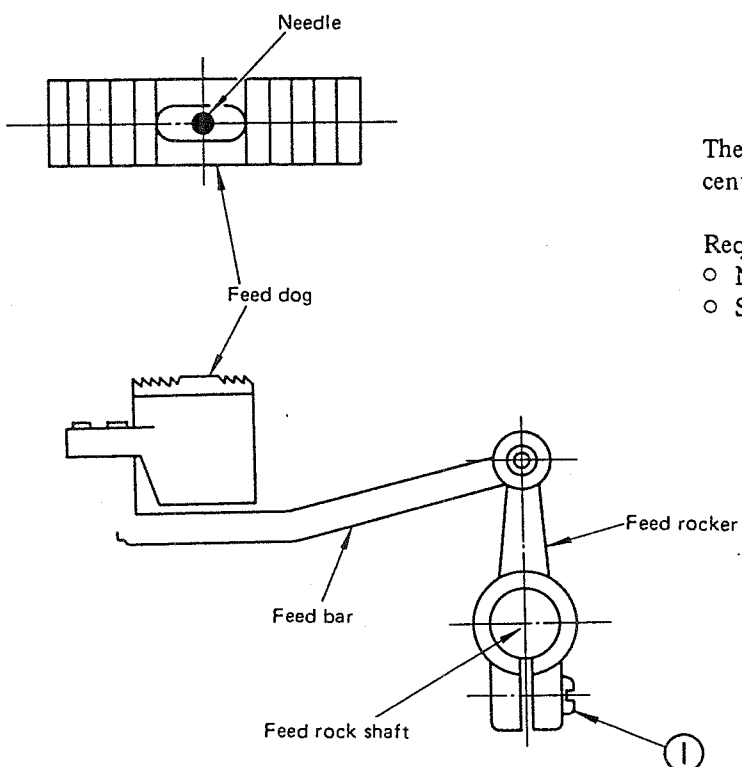

Fig. 3
<ol data-bbox="240 1256 932 1442" style="list-style-type: none"> 1. Turn the stitch length regulator dial fully clockwise. 2. Turn the handwheel until the needle bar comes down to its lowest point. 3. Loosen screw ① of Fig. 3. 4. Adjust the feed rocker so the center of the needle aligns with the center of the needle feed slot.